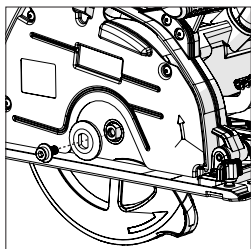

Fig. 5
- Remove and safely store the blade bolt and outer flange. (**Fig.5**)